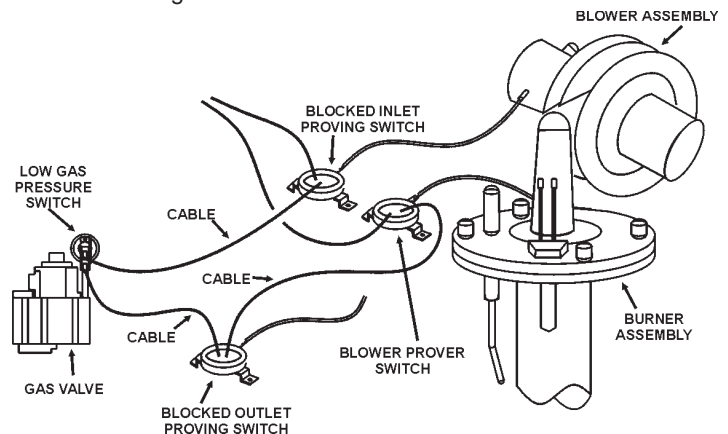

FIGURE 13.
to close. The pressure switch is connected to the burner tap by a piece of tygon tubing. This tubing must be connected in order for the switch to change the electrical contacts. The controller requires that the electrical contacts on this air flow switch be open before it will allow the blower to come on. See Figure 13.
The Blocked Outlet Prover Switch is set up to shut the unit off when a build-up of positive pressure in the exhaust vent pipe occurs. This switch is a positive pressure switch that requires an increase in pressure to change the electrical contacts from normally closed to open. When this switch prevents the unit from igniting, most likely the exhaust is blocked by some means. Check to see if the condensate is allowed to flow freely from the exhaust elbow and for obstructions in the exhaust venting and exhaust vent terminal. See Figure 13.
The Blocked Inlet Prover Switch is set up to shut the unit off when a build-up of negative pressure in the intake vent pipe occurs. This switch is a negative pressure switch that requires an increase in negative pressure to change the electrical contacts from normally closed to open. The switch is connected to the pressure tap on the flange connected to the inlet of the blower. When this switch prevents the unit from igniting, most likely the intake is blocked by some means. Check to see if there is no more than eighty (80) equivalent feet (24.8m) of four inch PVC vent pipe on the intake. Also verify that the intake and intake vent terminal is free of obstructions that may prevent air from entering the unit. See Figure 13.
The Low Gas Switch (LGS) is a single-pole, normally open pressure switch that will close its contacts when a rising pressure of 4.6 in. W.C. (1.25 Kpa) is encountered. The contacts will open when the pressure falls below the fixed set point of 4.6 in. W.C. (1.25 Kpa). The LGS monitors the gas supply pressure to the heater. If the gas supply falls below 4.6 in. W.C. (1.25 Kpa), the main burner is extinguished (if heater is running) or the heater will not start up. **NOTE: LOW GAS SWITCH IS LOCATED ON INLET SIDE OF GAS VALVE.** See Figure 13.